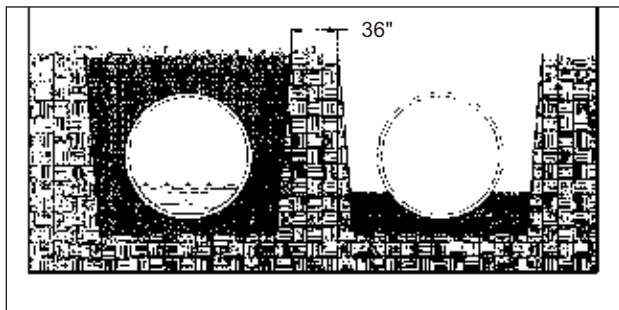

FIGURE 19-1
19.2.1. The preferred method (FIGURE 19-1) is the following: